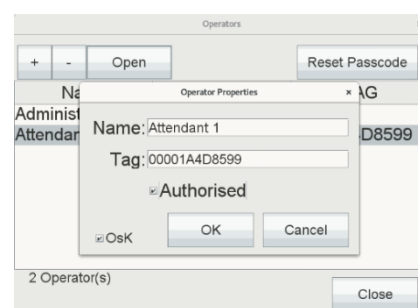

Figure 129: Operators Properties
5. Tap on Open. The Operator Properties panel for the selected Attendant Tag is displayed (see Figure 129).